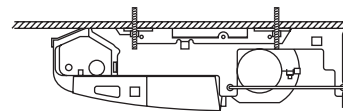

Fig. 1-94
- Tighten the two hexagonal nuts on each suspension bolt to suspend the indoor unit as shown in Fig. 1-94.